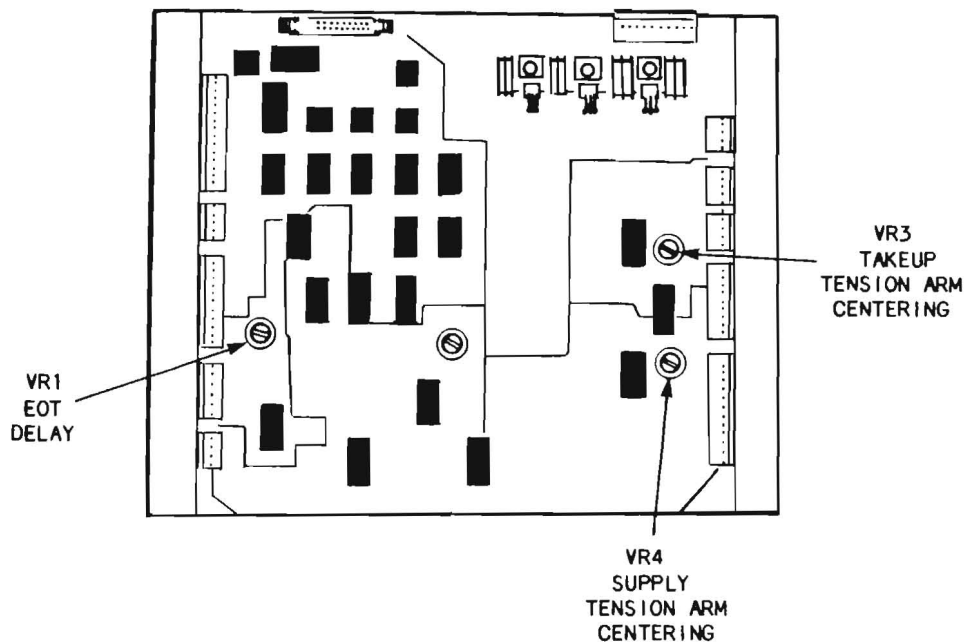

Figure 4-4, Servo Board Adjustments
2. For Takeup tension arm centering, adjust potentiometer VR3 so that the takeup sensor arm rests in the center of its travel range (see Figure 4-4).
3. For Supply tension arm centering adjust potentiometer VR4 so that the supply sensor arm rests in the center of its travel range (see Figure 4-4).